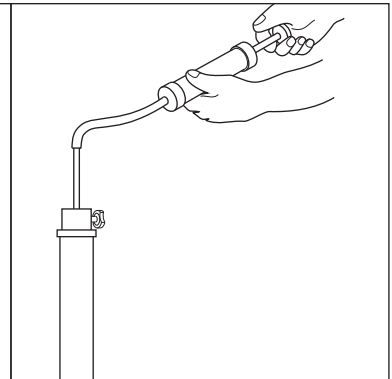

Fig. 1.22B
- Used to maintain the front fork oil level at the specified height. (Fig. 1.22B)